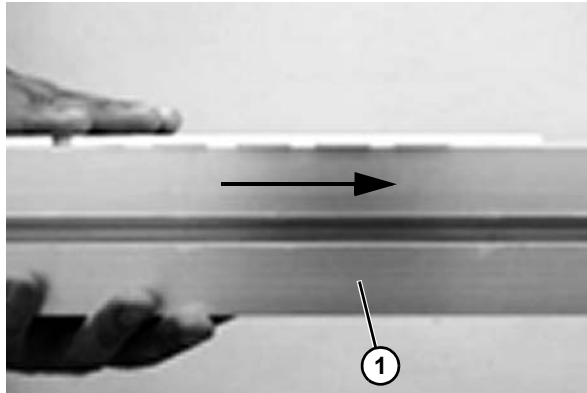

Figure 54
2. Feed the chain along the conveyor (**Figure 54, item 1**) by pulling it through the idler unit and back to the drive unit.